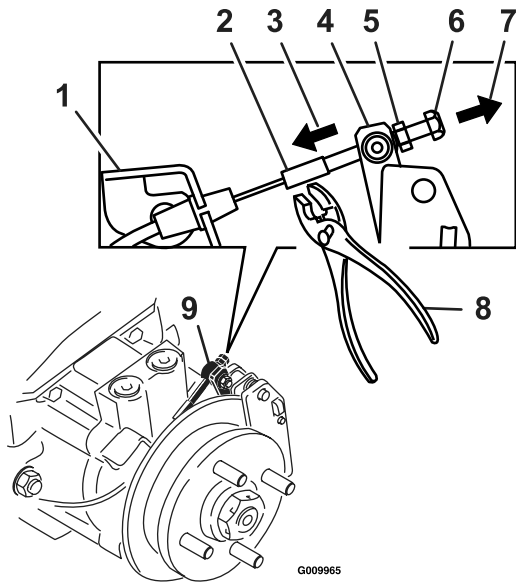

Figure 32
9. Using hands and fingers only, push the caliper lever arm to engage the brake pads on the rotor until the lever stops. While holding the lever at the stopped position, use the other hand or fingers to pull the cable threaded end tight through the swivel. Spin the standard nut against the swivel (see Figure 32).